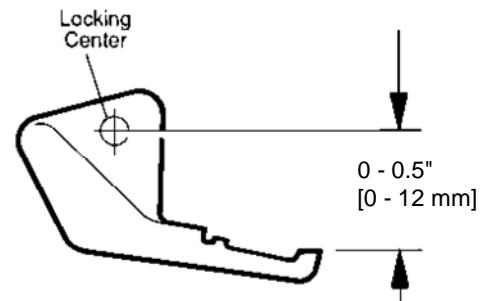

FIG. 30
6. As a starting position, pivot the bedknife so its cutting edge is 0 - .5" [0 - 12 mm] lower than the centerline of the centers on the fixed and adjustable supports. See FIG. 30.